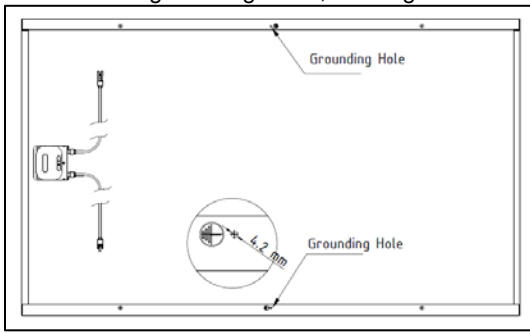
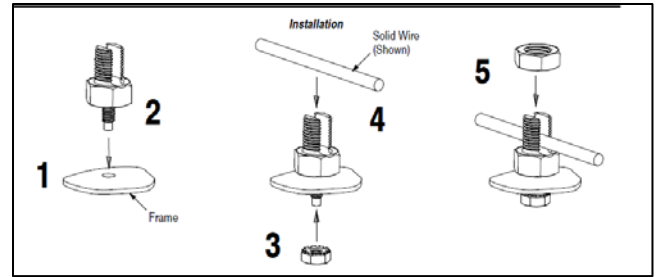
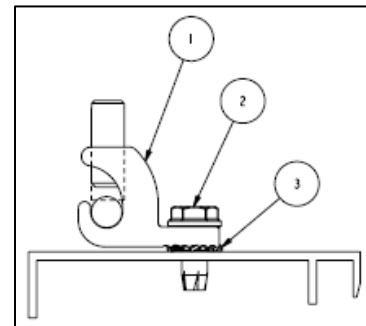
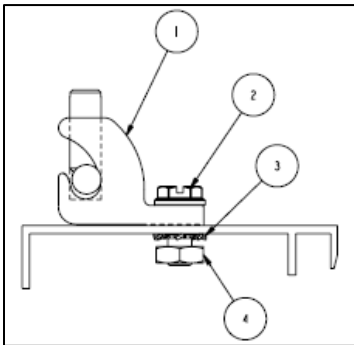

Figure 3: Grounding Hole Location
Figure 6: Solklamp Grounding Bolt Diagram
Figure 7: Self Threaded Grounding Lug: Grounding Diagram
Figure 8: Grounding Lug with Nut: Grounding Diagram
- When using provided grounding holes on module frame locate 4.2 +/- 0.2 mm diameter grounding holes in Figure 3 that are marked by the grounding symbol. . The flange on which the grounding hole is located
Attach the grounding conductor to the module frame through at least one of the two grounding holes, See Figure 3.
The grounding clip manufactured by Tyco Electronics Corp. (Part number: 1954381-1) is UL listed and designed for module grounding applications using a solid 10 to 12 AWG un-insulated ground wire. It is attached to grounding hole on module frame, Figure 3, by an integrated, 10-32 in. self-tapping screw. Place the grounding clip onto the frame, making sure that the screw straddles the grounding hole. Using a No. 2 cross-recessed screwdriver, thread the screw into the hole until the head is flush with the base and the base is flush with the frame, then tighten the screw with another 1/4 to 1/2 turn. Recommended torque is between 20 in-lb (2.3 N-m) for screw. Insert the wire into the wire slot. Press down on both ends of the wire (the wire slot will cause the wire to form a slight curve). Manually, or using channel lock pliers, push the slider over the base until it covers the base. This will terminate the wire.
grounding applications using a solid 6 to 12 AWG un-insulated ground wire. It is attached to grounding hole on module frame, Figure 3, by an integrated, 8-32 in threaded post and nut. Locate the grounding hole on the underside of the module frame (1). Insert the threaded post end of the wire bolt into the hole (2). Finger-tighten the hex washer nut onto the threaded post (3). Position the grounding wire into the wire slot (4). Finger-tighten the nut onto the wire slot end until wire is compressed (5). Using a 9/16" open end wrench to hold the hex body of the wire bolt, and using a 9/16" socket wrench, tighten the mounting hex washer nut (3) to a torque of 25 in-lb (2.82 N-m). While holding the hex body, use an 11-32" socket wrench to tighten the wire binding hex nut (5) to a torque of 45 in-lb (5.08 N-m). See Figure 6.
The grounding bolt manufactured by IlSCO (Part number: GBL-4DBT) and bolt manufactured by Burndy (Part number: CL501TN) are UL listed and designed for module grounding applications using a solid 4 to 14 AWG un-insulated ground wire. Locate module grounding hole, Figure 3. Assemble a # 10 stainless steel star washer (1) and #10-32 self-tapping screw (2) through grounding lug (1) and into the module grounding hole until washer and lug are flush with frame as shown in Figure 7. Using a 5/16 in. open ended wrench to tighten the screw (2) another 1/4 to 1/2 turn with recommended torque between 20 and 25 in-lb (2.3 and 2.8 N-m). Insert grounding wire into conductor slot of lug and tighten threaded set screw using a 5.5 x 0.8 mm (3/16 x 0.025 in.) flat headed driver to the torque specified in Table 1 to compress the conductor.
The grounding bolt manufactured by Burndy (Part number: CL501TN) is UL listed and designed for module grounding applications using a solid 4 to 14 AWG un-insulated ground wire. Locate module grounding hole, Figure 3. Using a 5/16 open ended wrench, thread #10-32 self-threading screw through the grounding hole to open up the hole size and remove. Assemble a #10-32 bolt (2) through the grounding lug (1) and into the module grounding hole. Install a # 10 stainless steel star washer (3) and hex nut (4) around the frame until washer and lug are flush with frame, as shown in figure 8. Using two 5/16 in. open ended wrenches to tighten the screw (2) and bolt (4) another ¼ to ½ turn with recommended torque between 20 and 25 in-lb (2.3 and 2.8 N-m). Insert grounding wire into conductor slot of lug and tighten threaded set screw using a 5.5 x 0.8 mm (³/₁₆ x 0.025 in.) flat headed driver to the torque specified in Table 1 to compress the conductor.